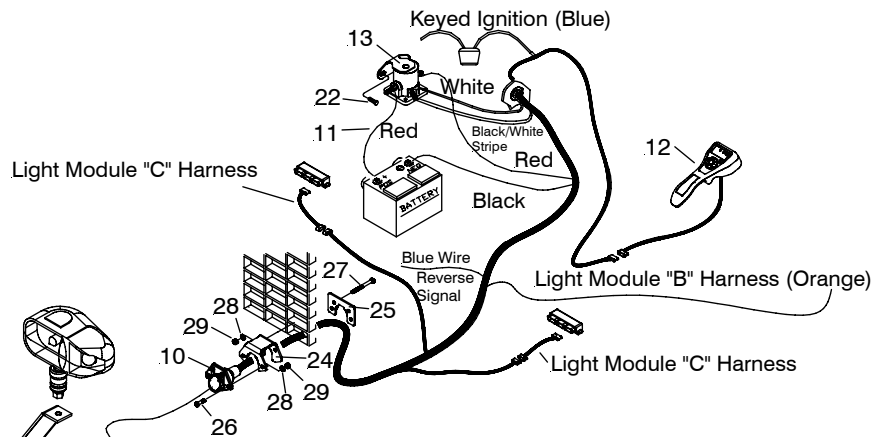

Figure 2
- C. Attach fixed end of Wing Cylinders (5) to the A-Frame with a 5/8-11 x 5" bolt (18) and 5/8-11 locknut (20) on each side.
- D. Attach live end of Wing Cylinder rod (5) to the Wings using a 5/8-11 x 5" bolt (18) and 5/8-11 locknut (20) on each side.
- E. Attach Wing Cylinders hoses to the V-70 Lift Assembly (1) by removing the caps from the hoses (6 & 7) and plugs from the V-70 Lift Assembly (1). (Do not discard they can be used for servicing the unit). See Figure 2.
- F. Attached the other end of hoses to valve assembly. Thread hose face seal fittings onto the adapters hand tight. Then tighten locking nut another 30 to 45 degrees of rotation. See Figure 2. **Use zip ties to secure and route hoses to avoid contact with moving parts of the plow assembly.**